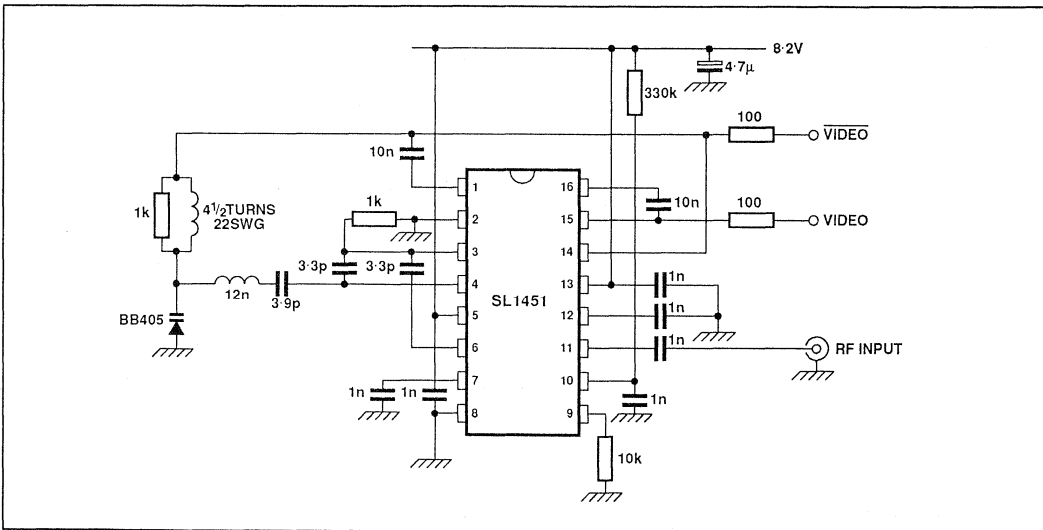

Fig. 3 Typical application circuit
1. All characteristics from Oscillator Lock Range to Video Bandwidth are measured using the application circuit Fig. 3.